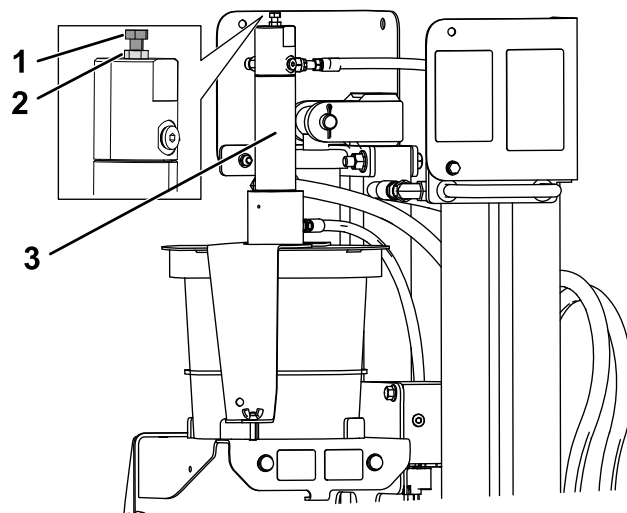

Figure 71
1. Loosen the jam nut on the adjustment bolt located on top of the TJC-applicator piston (Figure 71).